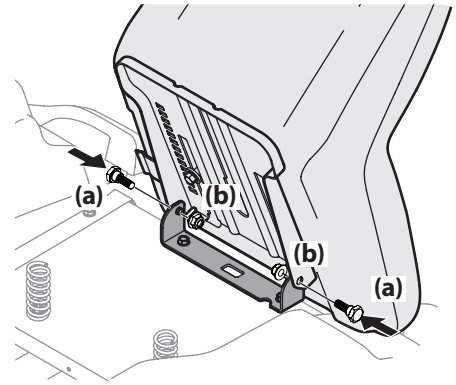

Figure 2-10
- Rotate the seat into position and secure the seat into place with the previously removed shoulder screws (a) and flange lock nuts (b). Be careful not to crimp or damage the wire harness while installing the seat. See Figure 2-10.